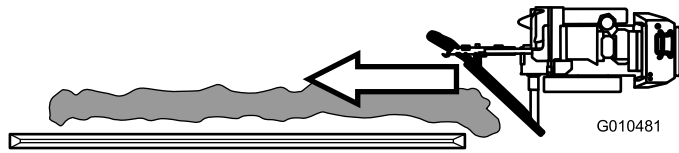

Figure 6
1. Drive the trencher with the blade attached to the end of the trench, orienting the blade just behind the spoils pile so that the left end of the blade overlaps the right side of the trench (Figure 6).